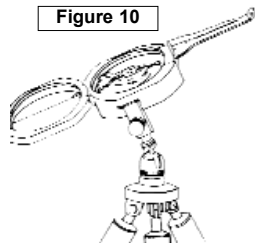

Figure 10
3. Open both the cover and large sight, until they extend parallel to the body. (Fig 10)
4. Flip small sight and peep sight up. (Fig 10)